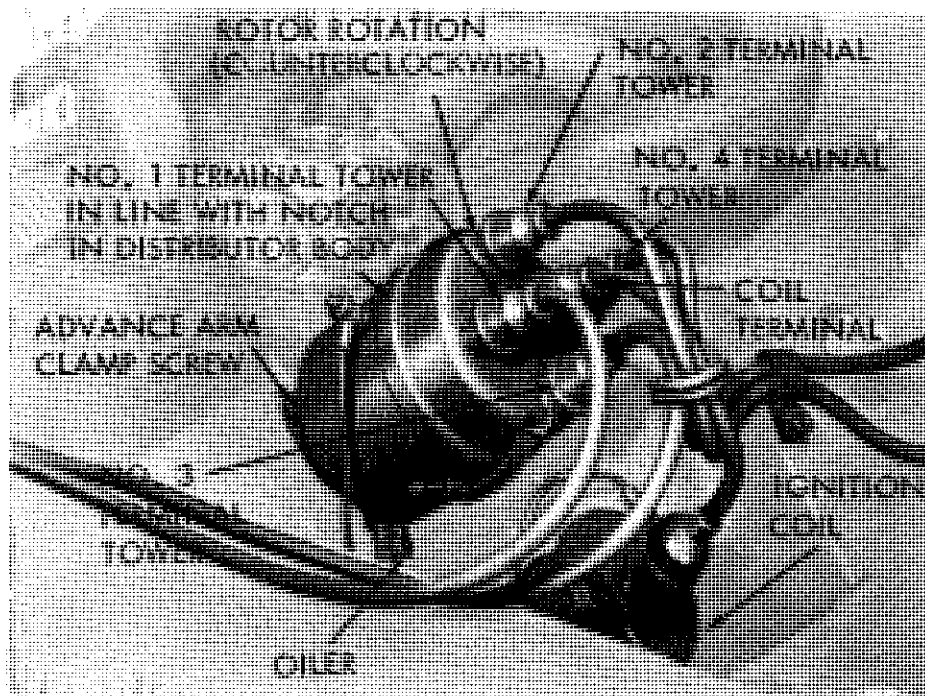

Figure IV-8 Distributor and Ignition Coil
E. DISTRIBUTOR (SEE FIG. IV-8)